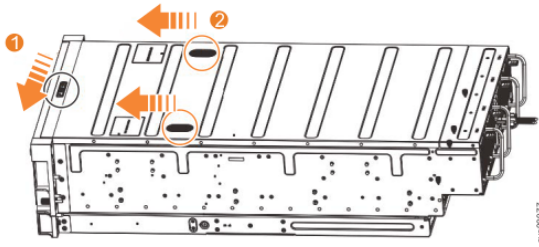

Figure 96. Releasing the 5U expansion enclosure cover
2. Slide the release latch (**1**) in the direction that is shown in Figure 96 on page 157.
3. Slide the cover toward the front of the expansion enclosure (2), as shown in Figure 96 on page 157.